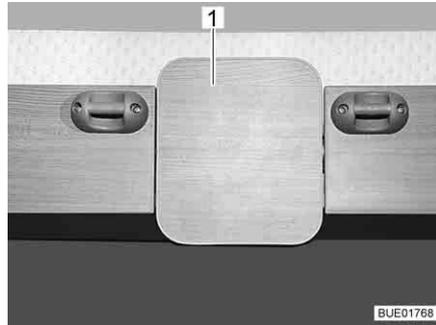

Fig. 81 Release area
- Pull out the release area (Fig. 81,1 or Fig. 82,1) at the bottom or press the release knob (Fig. 83). The lock is released.